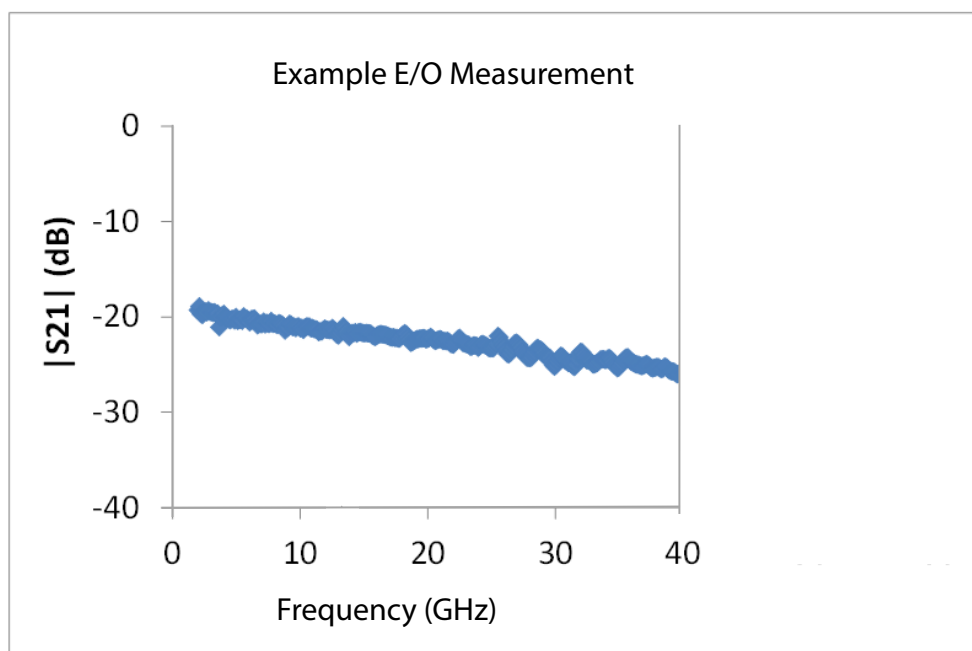

Figure 14-10. The results of an example 2-port E/O measurement are shown here using the procedure discussed in the text.
- The E/O measurement utility is invoked using the default port assignment, loading the .chx setup file and loading the characterization file of the MN4765X. Upon selecting **Done** on the dialog, the resulting S21 measurement reflects the conversion behavior of the modulator and is shown in Figure 14-10. In this case, there is about 10 dB of roll-off over the bandwidth of the measurement.